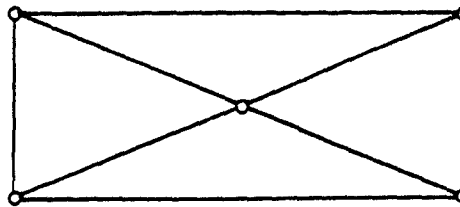

Figure 5. Cables, step seven
7. Pull all of the cables taut and pin the two corners being held. The template should now look like Figure 5.